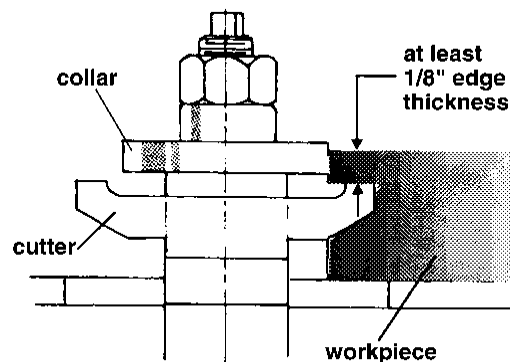

Figure 38
**Note:** Since the collar requires at least 1/8" of surface edge to ride against, the entire edge cannot be shaped as shown in Figure 38. The added use of a pattern, however, permits the shaping of the entire contour edge.